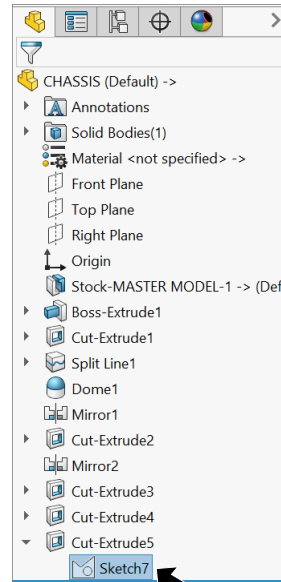

Fig. 64
Step 1. Expand **Cut-Extrude5** in the Feature Manager and select **Sketch7**, Fig. 64.